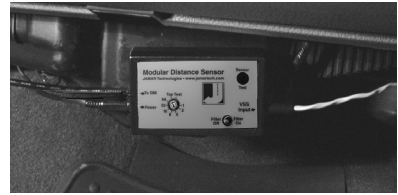

Fig. 3 – MDS Mounted Under Dash
1. Find a location under the vehicle dashboard that will allow fairly easy access to the MDS. **Do Not** mount the MDS on the heater ducts or where the heater vents will blow directly onto it. Attach the MDS using the nylon ties or Velcro provided, as shown in Figure 3.